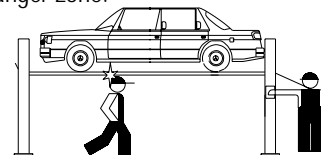

Fig.8
**RISKS FOR THE OPERATOR (Fig. 8)**
When the lift with the vehicle is moving downward, it is not permissible for any of the personnel to enter the room or walk under the (downward) moving parts of the lift.(Fig. 8)